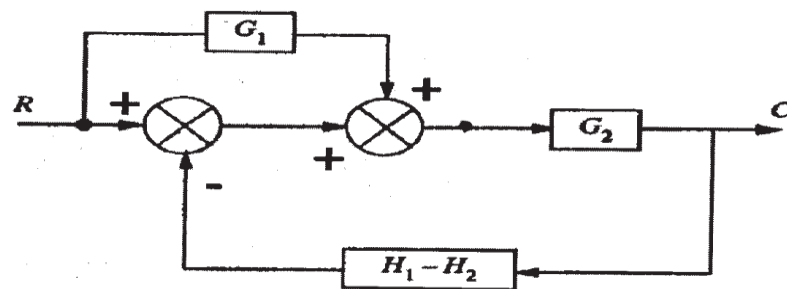

Figure 1
Q.24 Determine the composite transfer function,  $C/R$ , for the system in Figure 1. 5